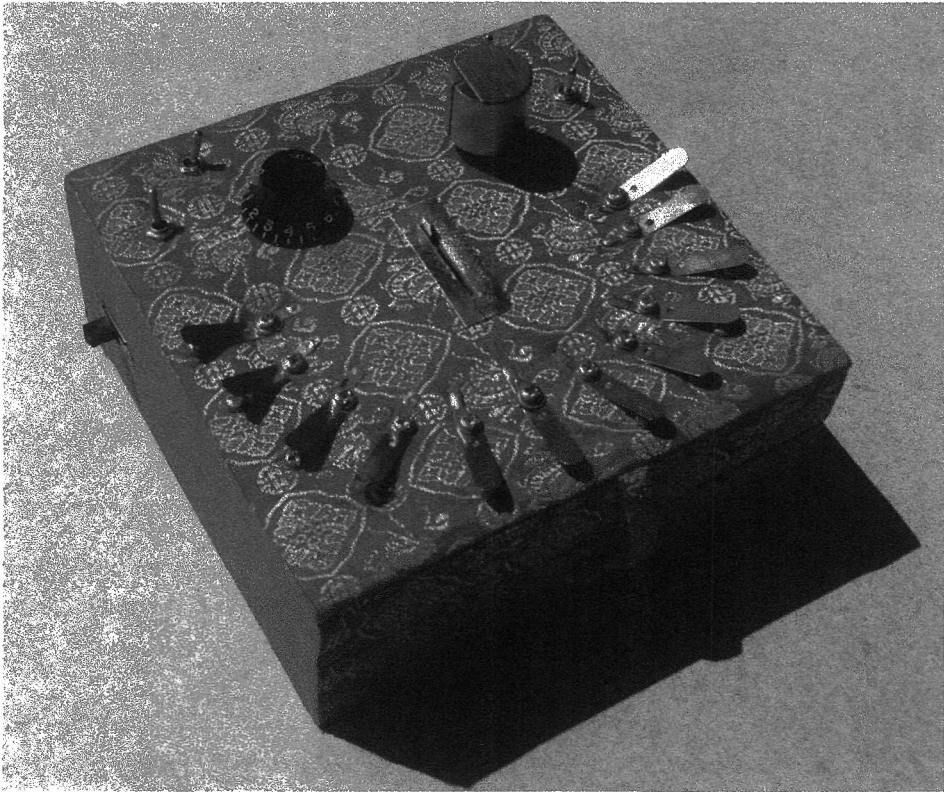

Figure 15.15 “Mao Tai,” Sarah Washington.
Notable younger Benders include Knut Aufermann (Germany/UK), Xentos “Fray” Bentos (UK), David Novack (USA), Vic Rawlings (USA), Sarah Washington (UK), Chris Weaver (UK), and Dan Wilson (UK). Britain’s particularly vibrant bending scene (including an “all bending ensemble,” P. Sing Cho—see audio track 14) has roots in the prevalence of toys as affordable, alternative noisemakers among improvisers in the 1970s—most significantly Steve Beresford. As Sarah Washington says, echoing Tudor from four decades earlier, “I am an improvising musician . . . the choice of sounds is down to the circuit—whatever it comes up with is fine with me” (see Figure 15.15).